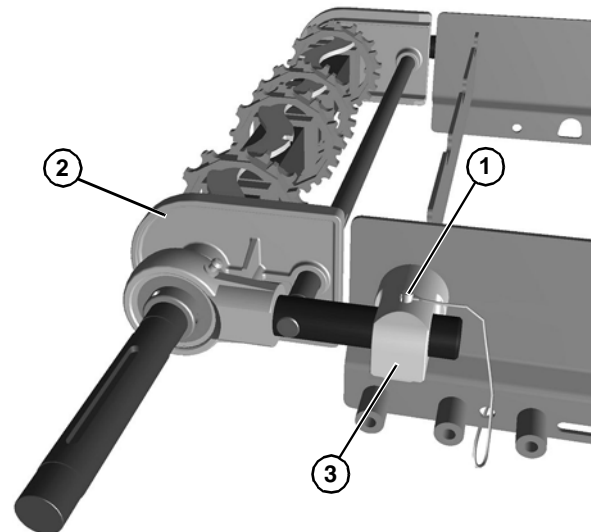

Figure 63
5. Remove the pull pin (**Figure 63, item 1**).
6. Slide the drive tail assembly (**Figure 63, item 2**) out of the take up blocks (**Figure 63, item 3**).